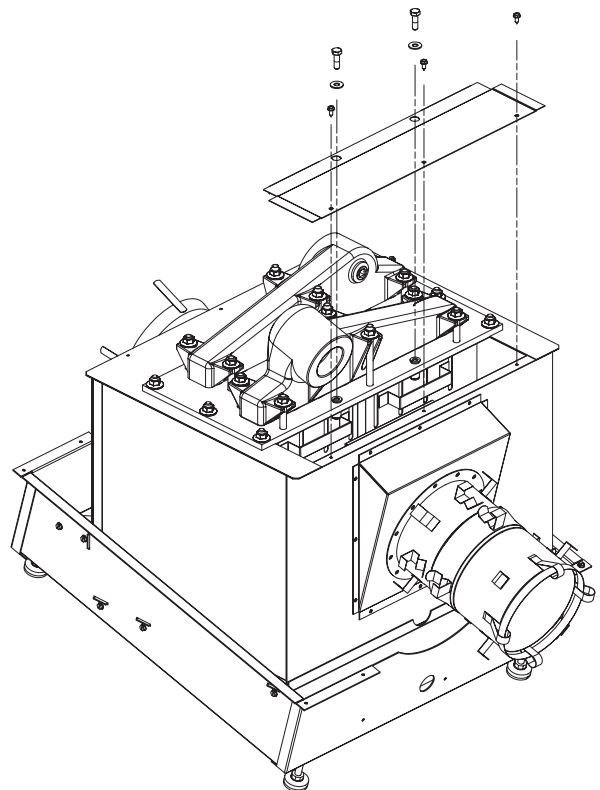

Fig. 34: Heat Exchanger Access for Cleaning
3. Pull out the right side baffle as shown in Figure 34.